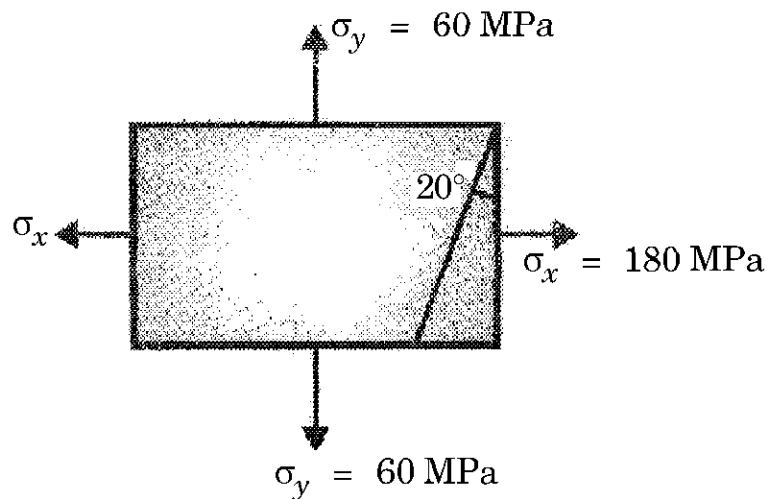

Fig. 5
6. (a) A rectangular block of material is subjected to stresses on perpendicular planes as shown in Fig. 5. Using Mohr's circle method (Graphical method), find : [8]